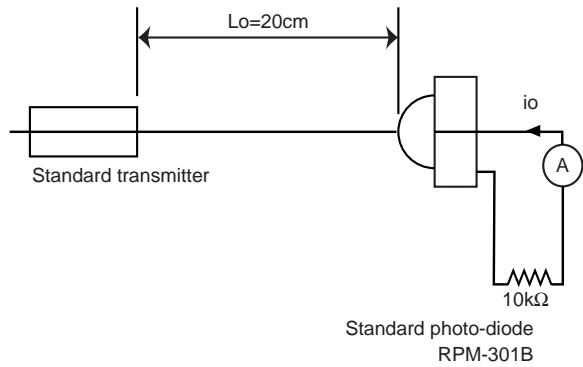
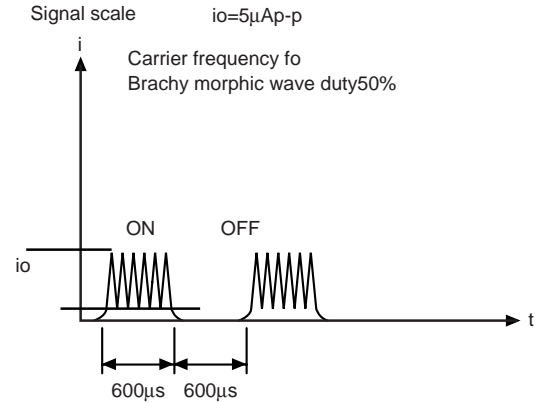

Fig.2 Measurement of standard transmitter proofreading
Fig.3 Standard photo diode current
When standard transmitter output the signal at Fig.1 standard photodiode output become $i_o=5\mu\text{A}_{p-p}$ (Fig.3) under the measurement condition Fig.2.
- (1) All characteristics of the receiver in this specification are specified by supplying burst wave form (Fig.1) with ROHM standard transmitter (Fig.2).